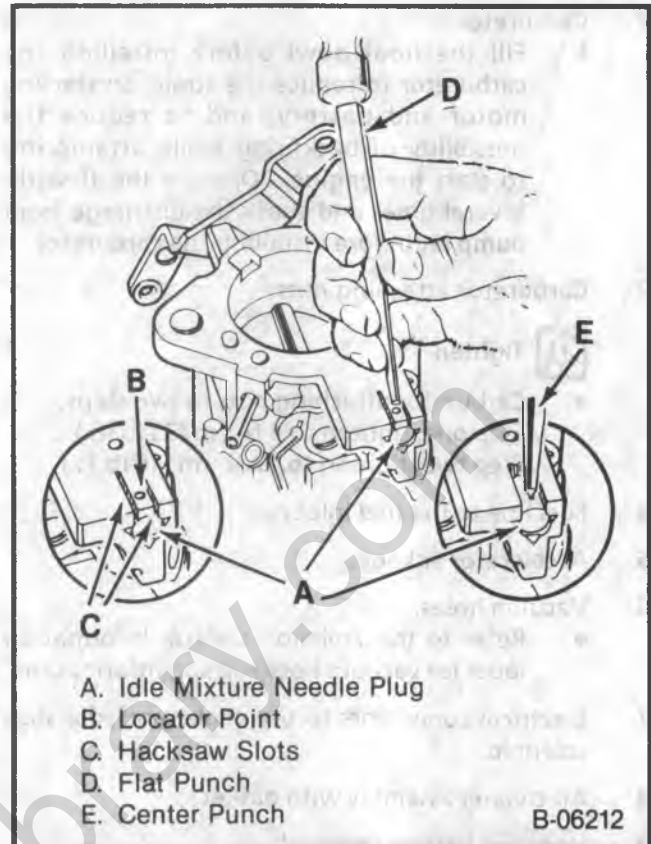

Figure 17 - Removing Idle Mixture Needle Plug
5. Remove idle mixture needle plug (Figure 17):